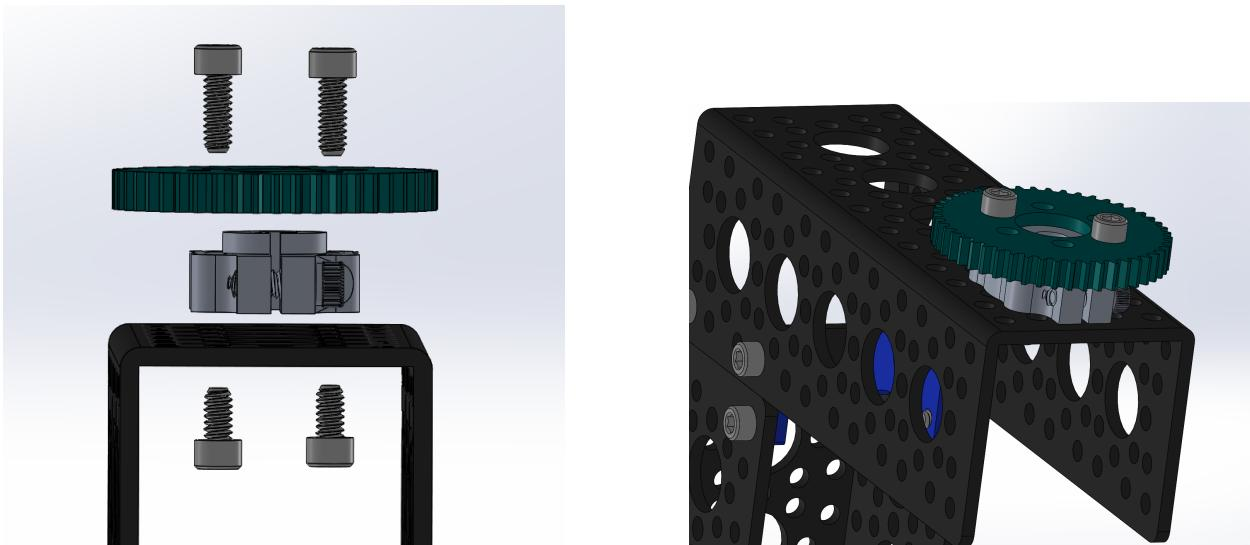

Figure 6: Corner Wheel Step 2
2. **Preparing the 4.5 inch Channels - D-Clamping Hub Attachment:** Attach the 0.25 Inch clamping hub **S12** and the plane bore gear **S26** to the channel using screws **B3** from the top and **B1** from the bottom as shown in Figure 6.